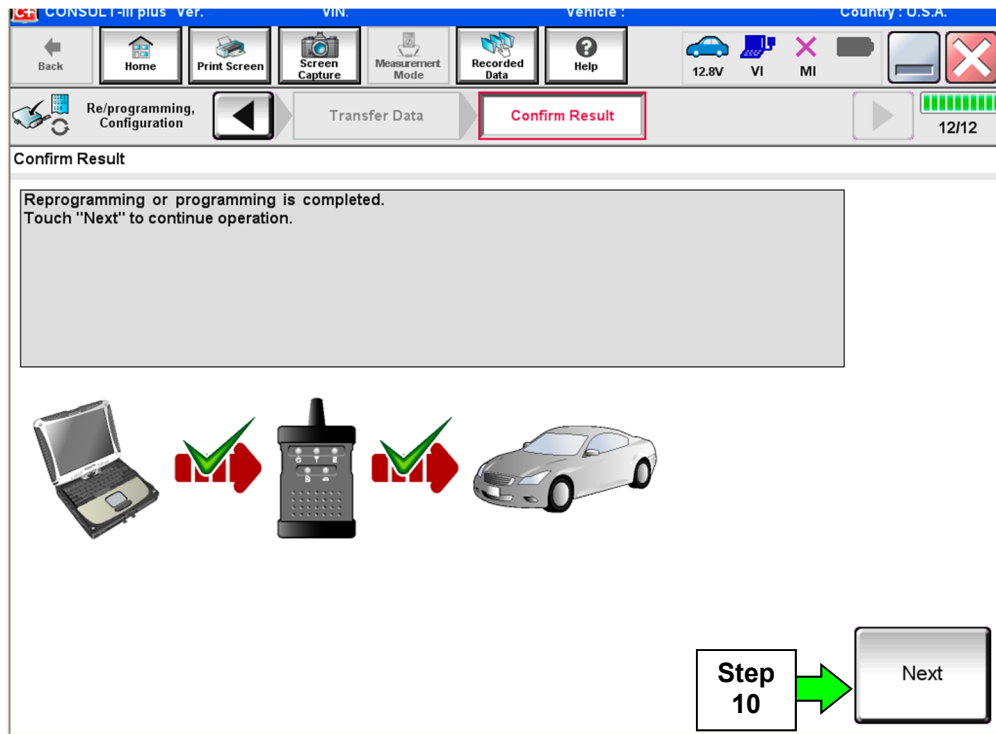

Figure 5
8. When the screen in Figure 5 displays, reprogramming is complete.
**NOTE:** If the screen in Figure 5 does not display (indicating that reprogramming did not complete), refer to the information on the next page.